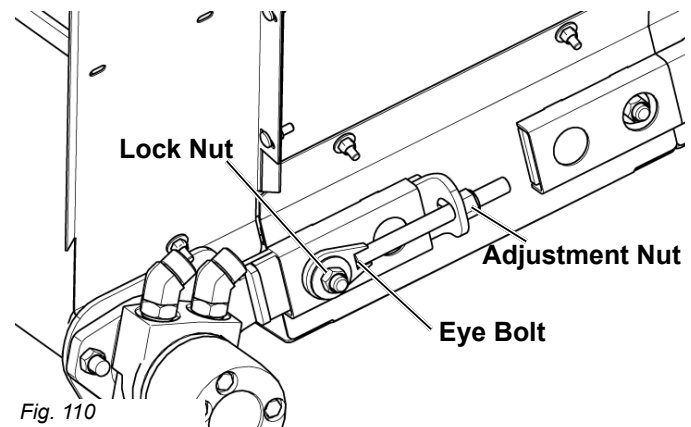

Fig. 110
2. Remove the bolt securing the tensioner to the sway bar as shown in Fig. 110 on page 68. This will allow you to slide the tensioner assembly partially out of the c-channel far enough to remove the roller.